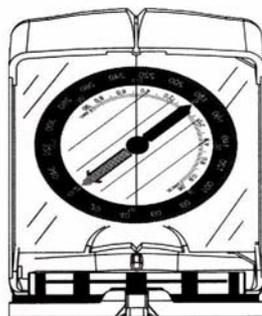

Figure 25 Sighting Line of the Mirror Runs in the Middle of the Capsule View
4. Place the compass horizontally at the eye level at a distance where sighting is easy. Aim so that the sighting line of the mirror runs in the middle of the capsule view (see Figure 25 on page 39). Turn your body around until the arrow at the base is parallel to the compass indicator and the orange north end of the indicator points to the red arrow. Make sure you keep the compass in an upright position and the sighting line remains in the middle.